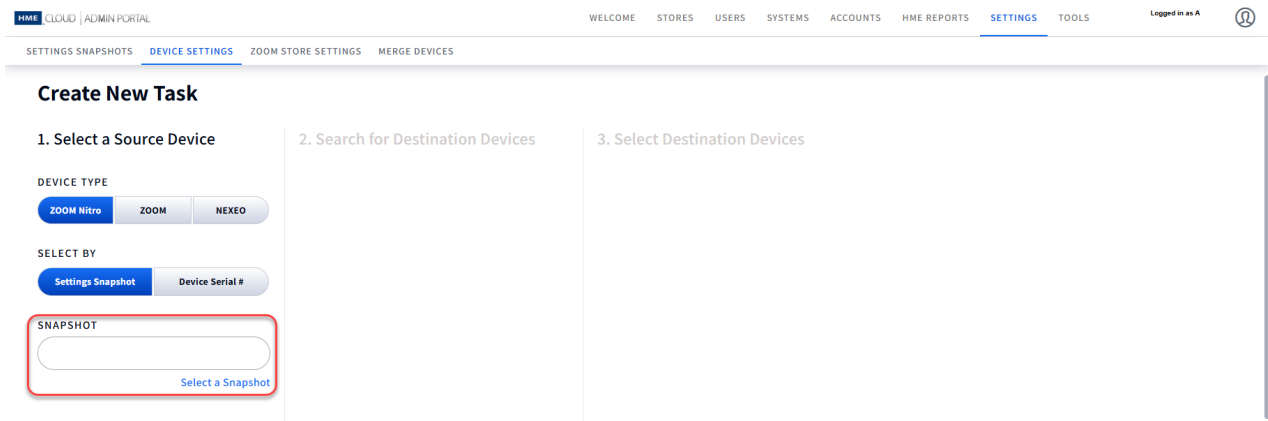

Fig. 13.9
5. If you know the snapshot filename, you can enter it directly into the **SNAPSHOT** field (Fig. 13.9). Alternatively, tap or click **Select a Snapshot** below the field to display a list of available snapshots (Fig. 13.9).